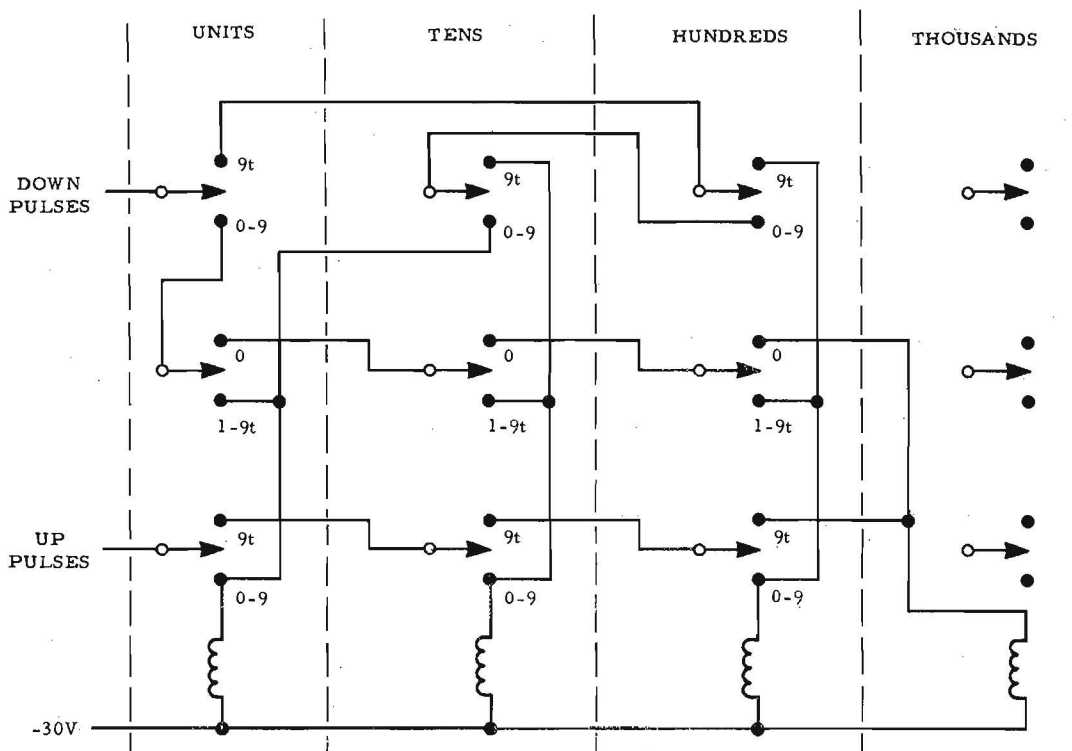

Figure 3. Simplified Stepping Switch Balance Logic Diagram
b. Balance Logic. Figure 3 is a simplified schematic of the balance logic functions performed by the stepping switches. The switch driver assembly provides a pulse on either the "up" or "down" line entering the switch logic. The line upon which the pulse appears depends upon whether the input voltage is greater or less than the voltage put out by the potentiometer. The pulse is routed through the contact network to a stepping switch coil. The routing is determined by the position of the stepping switches. The contact network is so arranged that the meter drives itself to null. Table I illustrates the logical events necessary to measure 1.324V when the instrument is at 0.000.